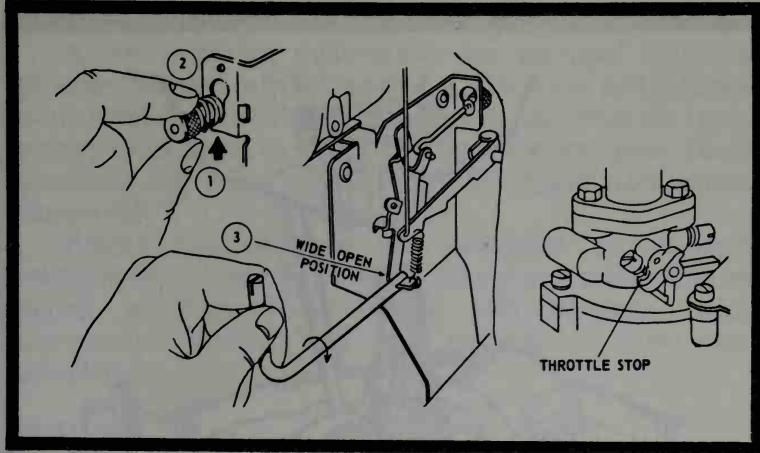

Fig. 8-28. The adjustment procedure for Briggs and Stratton generator sets. The numbers in the drawing are keyed to the text.
1. Release the adjusting nut (Fig. 8-28).